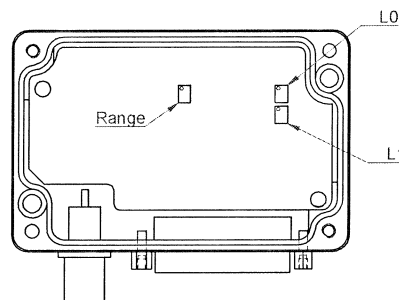

Figure 7 - Potentiometers
With the variable range, the measurement system can be adjusted for any output signal with a known measured magnitude. Select the suitable measurement range according to the charge to be expected. Now put the system into operation, apply load required to generate the pC, and set the output signal to the desired voltage value using the range potentiometer (see Figure 7). To do this, the lid of the charge amplifier must be opened.
Put the system into operation, apply known load, and set the output signal to 8V using the range potentiometer (see Figure 7) for maximum force.
2. Internally, supplied by the charge amplifier itself. Once the lid is removed from the unit, the two potentiometers L0 and L1 (see Figure 7) can be used to set the threshold.